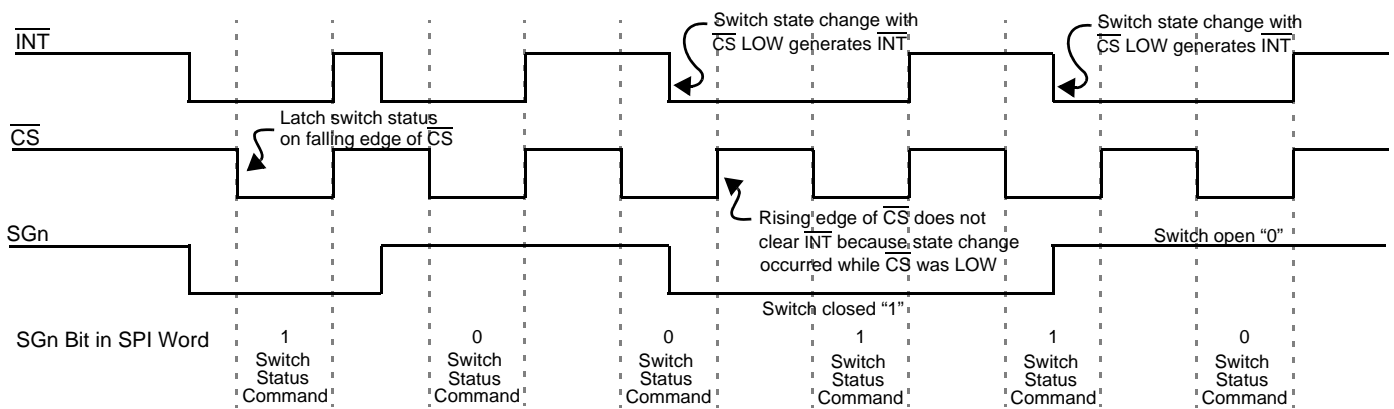

Figure 4. Normal Mode Interrupt Operation
2.  $\overline{INT}$  terminal is reset to logic [1], except when additional switch changes occur during  $\overline{CS}$  LOW. (See Figure 4 on page 8.)
Figure 4, page 8, is a graphical description of the device operation in Normal mode. Switch states are latched into the input register on the falling edge of  $\overline{CS}$ . The  $\overline{INT}$  to the MCU is cleared on the rising edge of  $\overline{CS}$ . However,  $\overline{INT}$  will not clear on rising edge of  $\overline{CS}$  if a switch has closed during SPI communication ( $\overline{CS}$  LOW). This prevents switch states from being missed by the MCU.